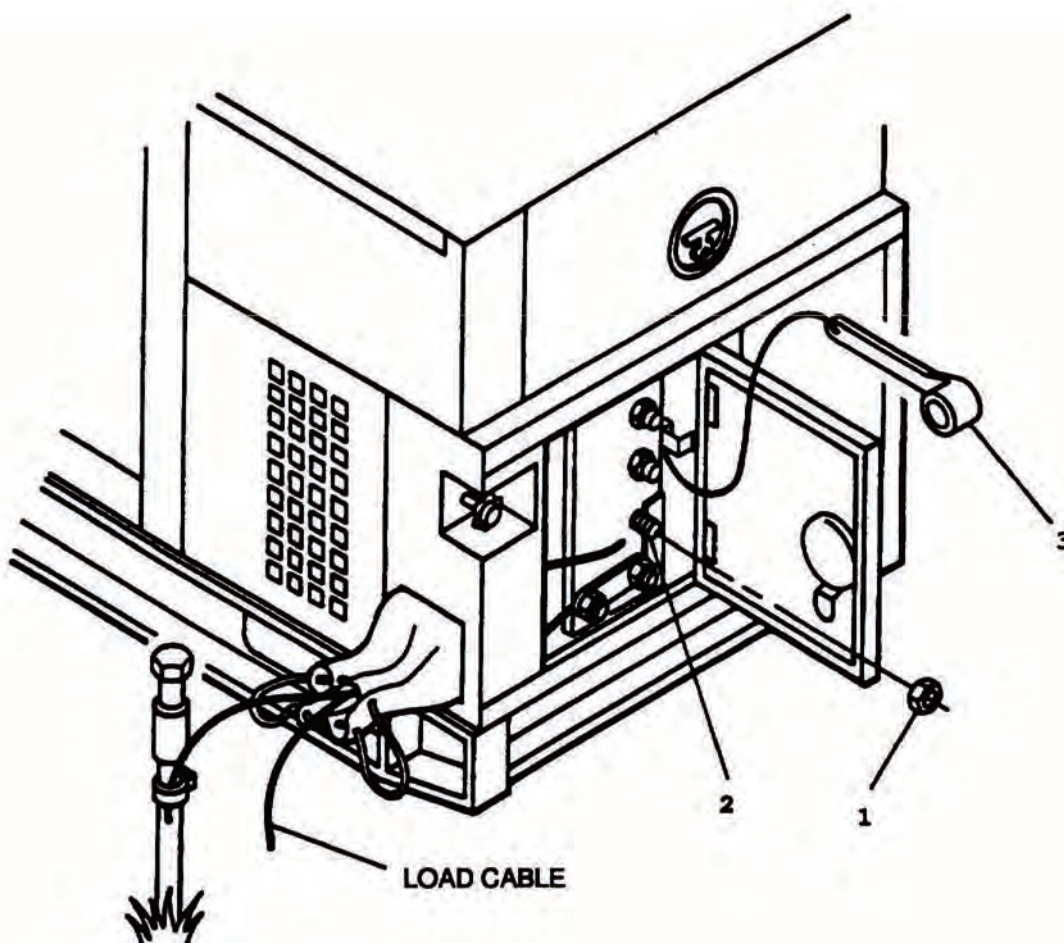

Figure 2. Installation of Load Cables.
5. Using terminal nut wrench (Figure 2, Item 3) loosen terminal nuts (1) on terminals (2) selected in Step 2.
6. Insert ends of load cables through load cable exit. Then insert ends of cables into slots of load terminal studs (2).
7. Tighten load terminal nuts (1).
8. Secure wrench (3) in bracket inside load terminal door, and close door.